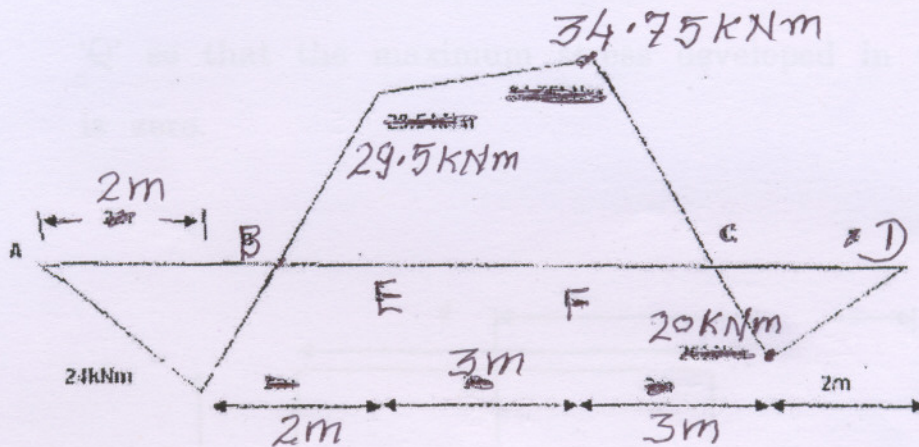

Fig. 4
- (b) The bending moment diagram for a beam ABCD supported at B and C is shown in Fig. 4. Draw the loading diagram for the same. Also plot shear force diagram. [7]